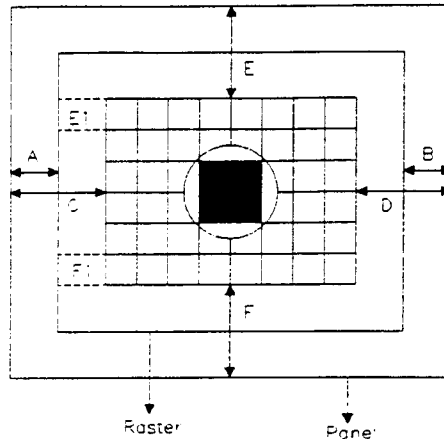

Figure 7
2. Adjust VR403 let  $A-B = 0 \pm 1$  mm (See Fig 7).
(7) DYNAMIC FOCUS CHECK
3. Press  $+$  or  $-$  to adjust Vertical center  $\leq 2$  mm. (See Fig 7,  $|E-F| \leq 2$  mm)
(10) HORIZONTAL WIDTH ADJUSTMENT
3. Press  $+$  or  $-$  to adjust Horizontal phase  $\leq 2$  mm. (See Fig 7,  $|C-D| \leq 2$  mm)
(12) PINCUSHION ADJUSTMENT